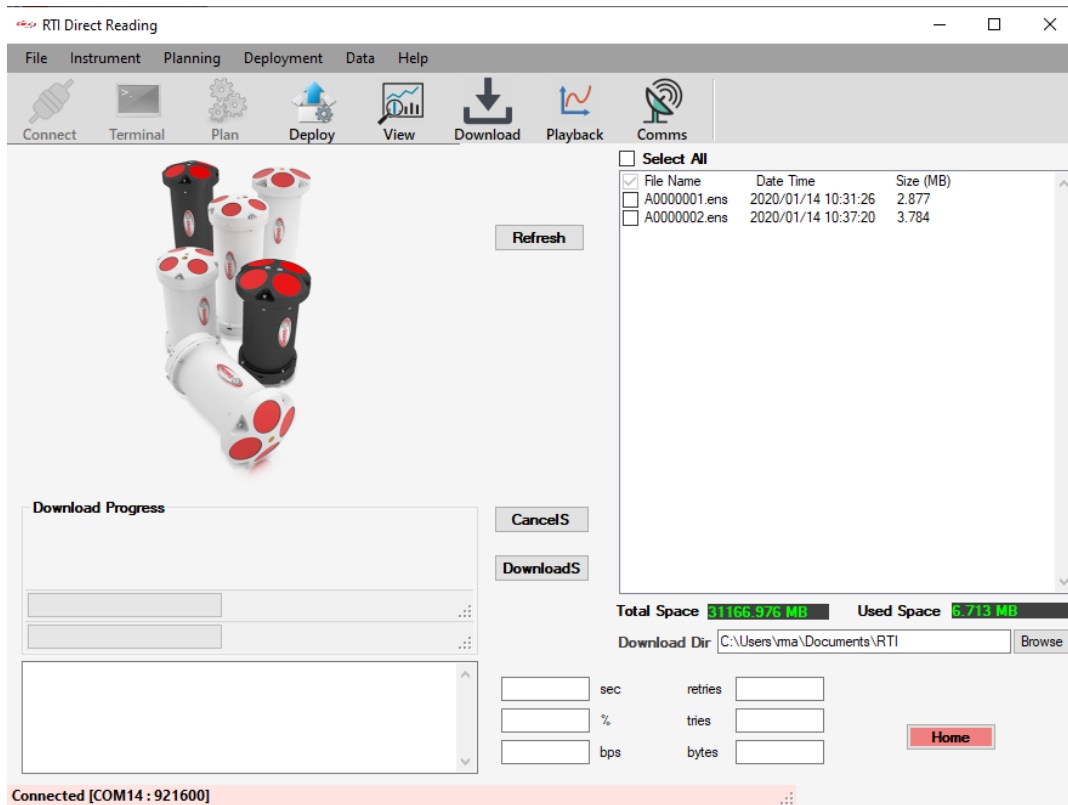

**Figure 19. Recording data on PC**
- **Record Data:** to save data to PC when ADCP is pinging (Figure 19). Data will be saved in the “\Documents\RTI\Direct Reading\Data” folder. Click it again to stop recording.